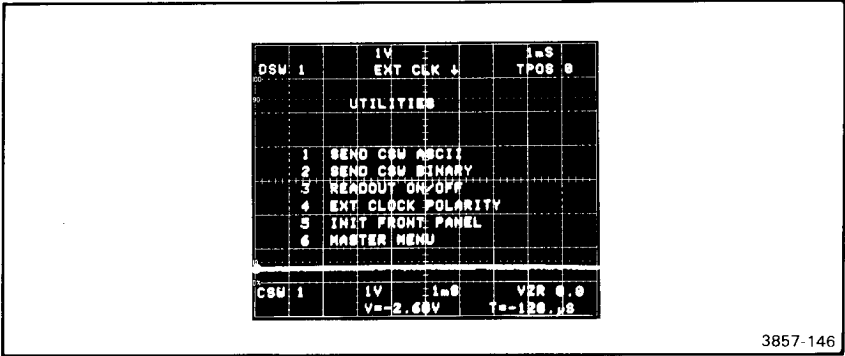

Figure 2-41. External Clock prompt.
**4 EXT CLOCK POLARITY.** This UTILITIES menu selection displays the current status of the EXTERNAL CLOCK polarity in the prompt field as shown in Figure 2-41. The message "EXT CLK ↓" or "EXT CLK ↑" is displayed (depending on current polarity status) and the arrow will be blinking. The EXT CLOCK polarity will reverse with each additional press of MEMORY DISPLAY key 4.